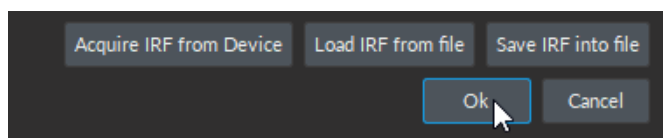

Figure 2.8: Select OK to save IRF
9. Once you've obtained a waveform of an appropriate range, select *Ok* (Fig. 2.8). This saves the IRF, which will be used in the live deconvolution algorithm. Each time you change the detector gain or laser power, you **MUST** retake the IRF before (or after) the recording.